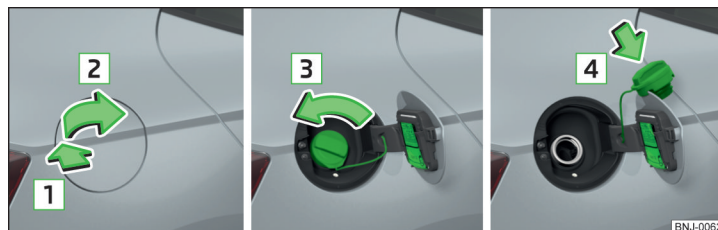

Fig. 256 Open fuel filler flap / unscrew tank cap / place the tank cap on the fuel filler flap
- Press the fuel filler flap in direction of arrow **1** and fold in the direction of arrow **2** » Fig. 256.